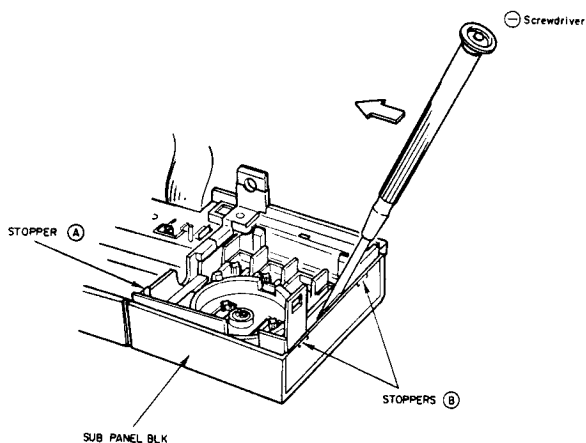

Fig. 4-3
- 4) Unfasten the stopper (A) and take off the stoppers (B) on the SUB PANEL BLOCK with a small  $\ominus$  screwdriver as shown in Fig. 4-3.